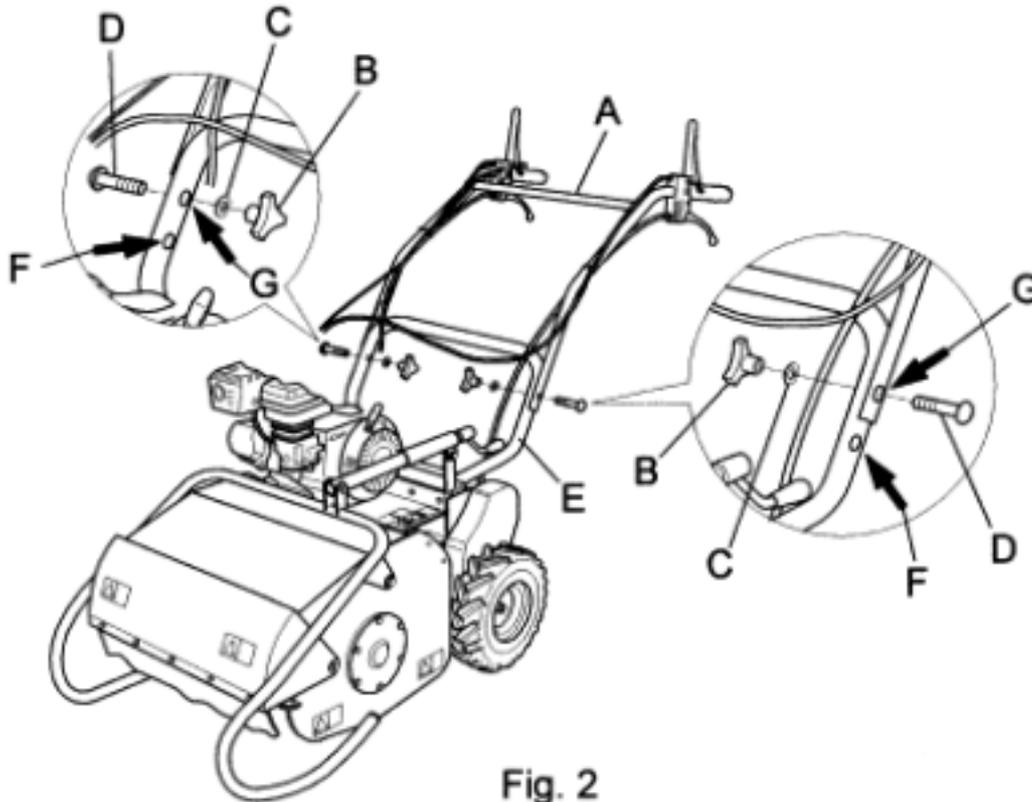

Fig. 2
- Lift the handlebar (Fig. 2 ref. A) and insert it in the support shown in Fig. 2 ref. E.
- Select the required height by inserting the screws (fig. 2 ref. D) in one of the two upper or lower holes ( Fig. 2 ref. F,G) on the handlebar support ( fig. 2, ref. E). Place the washers ( fig. 2 ref. C) on the appropriate screws ( fig. 2, ref. D) and fit the knobs (fig. 2 ref. B), screwing them down tightly.